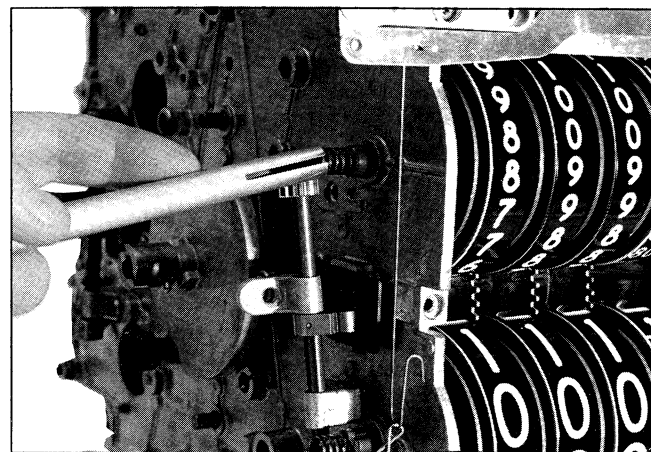
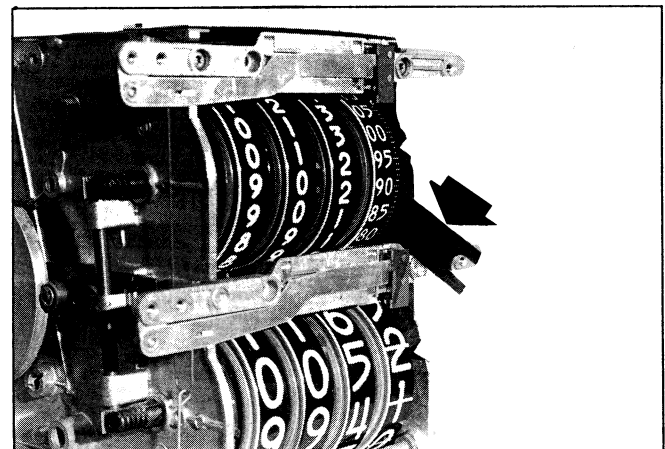
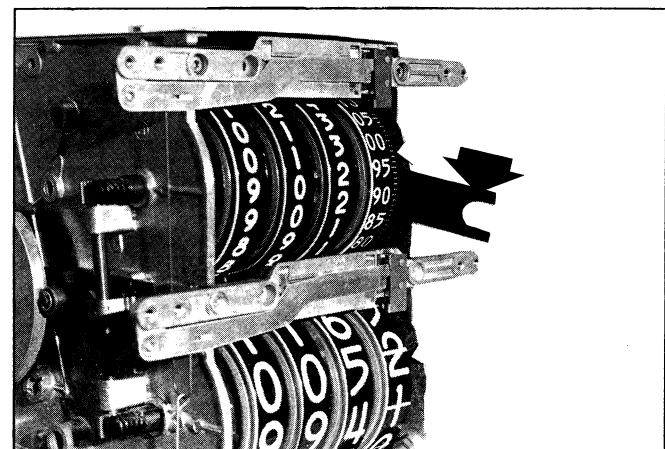

Figure 16. Placing open slotted end of long dummy shaft over grooved end of wheel shaft.
Figure 29. 0.015 inch (0.38 mm) feeler gauge in right side of wheel bank.
Figure 30. 0.022 inch (0.56 mm) feeler gauge in right side of wheel bank.
- d. Place **open slotted end** of long dummy shaft over grooved end of wheel on **rocker shaft side** of computer. Be certain slot in open end of long dummy shaft is aligned with slot in wheel shaft. Gently push wheel shaft out of computer, Figure 16 through 19.
- e. After insertion of adequate washers, check end-play with double end feeler gauge 0.015 inch (0.38 mm) to 0.022 inch (0.56 mm). Feeler gauge is inserted between 0.015 inch (0.38 mm) washer and **right** frame. If end-play is correct, 0.015 inch (0.38 mm) end should be free (drop), Figure 29, and 0.022 inch (0.56 mm) end should remain held (horizontal), Figure 30.
- g. After wheel shaft is assembled to computer, check wheel end-play again using double end feeler gauge, Figures 29 and 30. If wheel end-play is correct, proceed with the rocker shaft assembly. If wheel end-play is not correct, remove wheel shaft, Paragraph c.i.d, Figures 16 through 19, using long dummy shaft and add or remove washers at left side of computer. Install wheel shaft and check end-play again. If necessary, repeat above process until correct end-play is obtained.